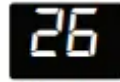

Fig. 7
- Ideal for hot muggy weather when you need to cool and dehumidify the room. To set operation of the appliance correctly, press the  or  buttons until the desired temperature is displayed. (See Fig. 7)